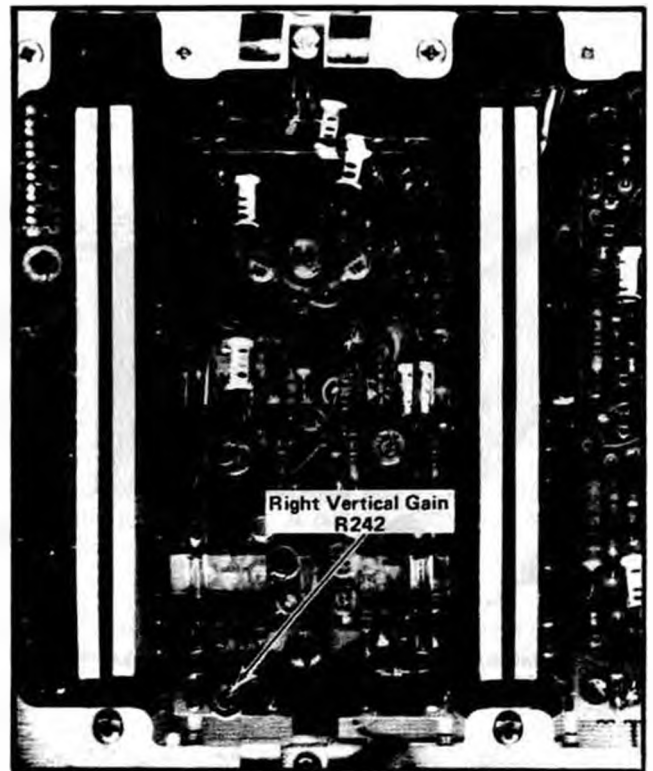

Fig. 5-11. Location of Right Vertical Amplifier Gain control R242.
d. ADJUST—Right Vertical Amplifier Gain adjustment R242 (see Fig. 5-11) to match the gain of the Right Vertical to the gain of the Left Vertical within 1% (0.06 division).